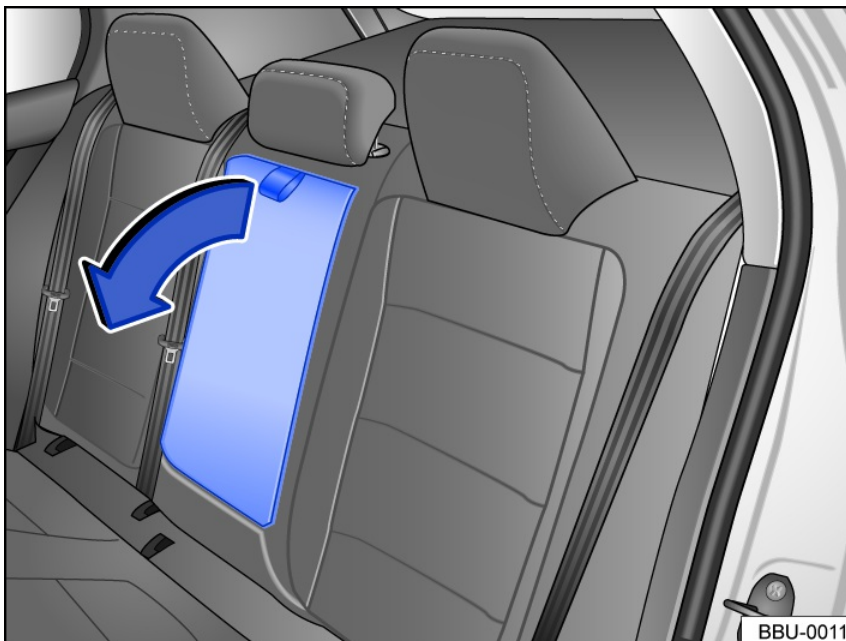

Fig. 77 Folding center armrest in the rear.
- To **fold out**: pull the loop in the direction of the arrow *fig. 77*.
- To **fold back**: fold the center armrest upward in the opposite direction of the arrow *fig. 77* and press it all the way toward the seat backrest.